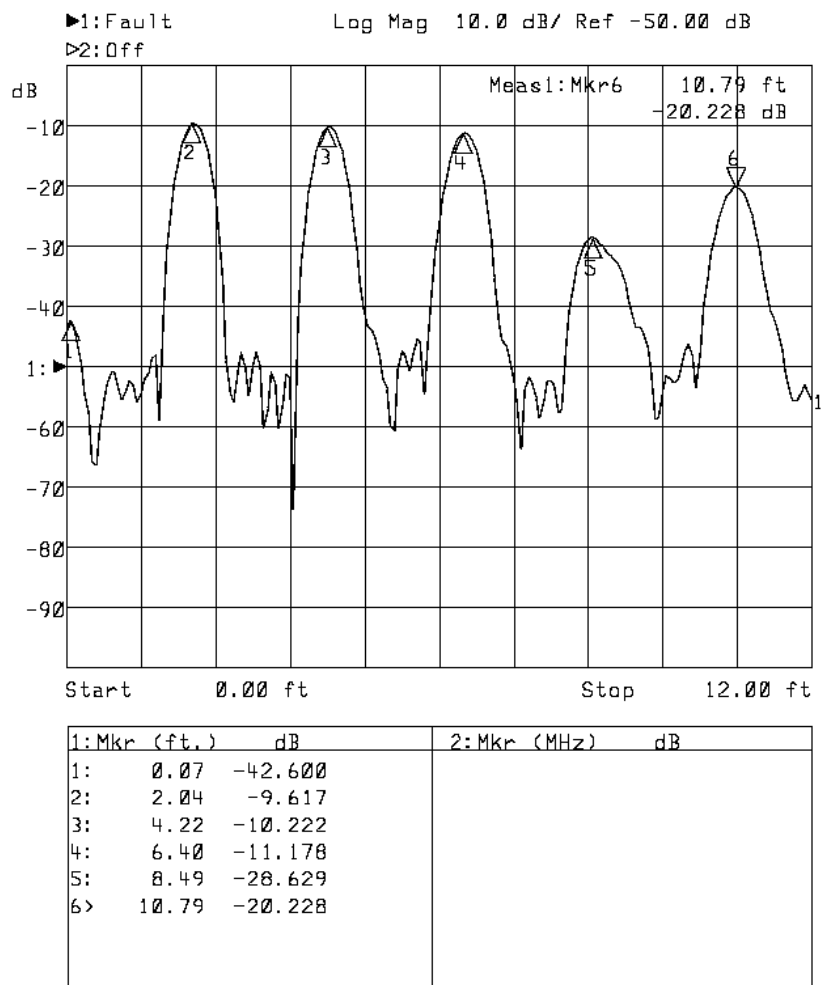
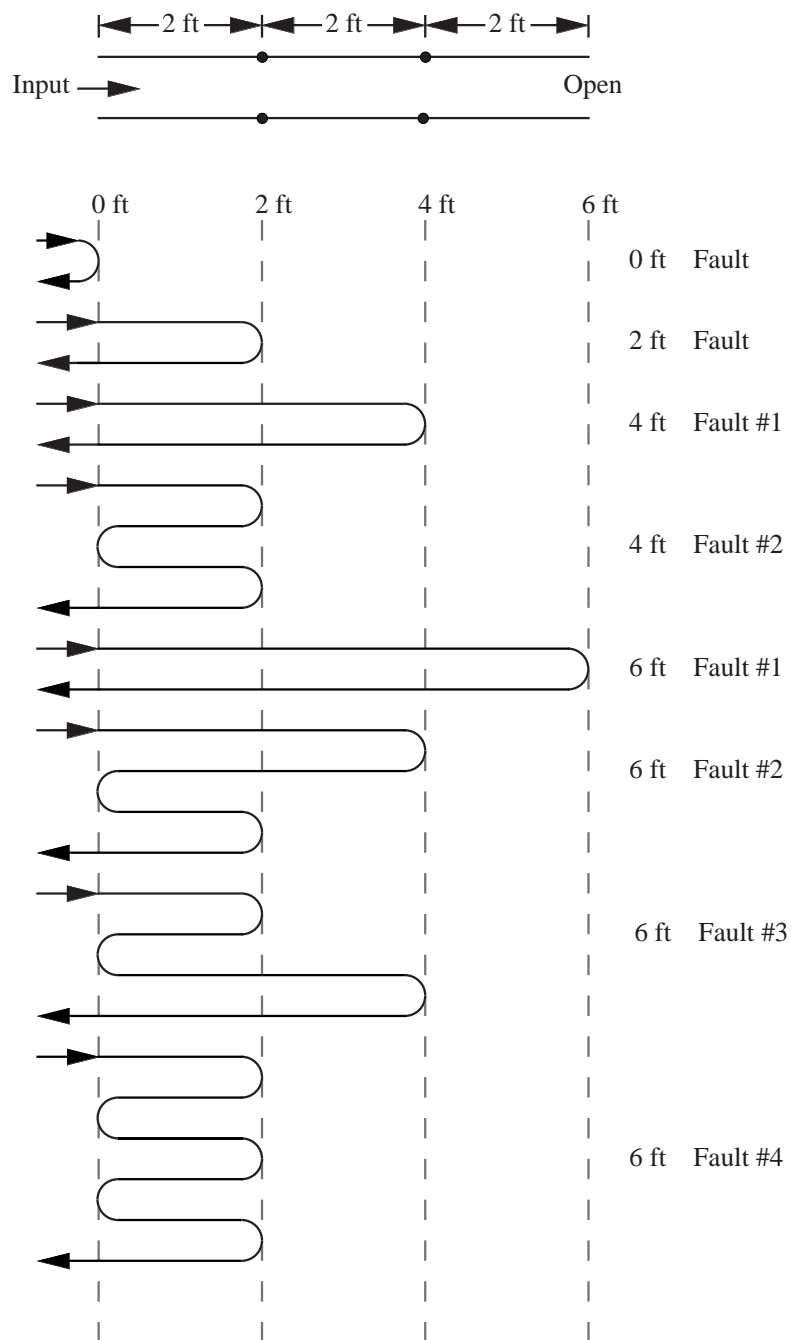

Figure 4-2: Distance domain response of fault location example
Figure 4-3: Signal path diagram for fault location example
An easy way to visualize what is happening to the signal in a transmission-line network is to draw a signal path diagram. For example, the measured response of three 2-foot long co-axial cables connected to each other and terminated in an open is shown in Fig. 4-2. From the response, you can see that there are faults at approximately 0, 2, 4, 6, 8, and 10 feet. What do these faults correspond to? To answer this question, a signal path diagram for the 0, 2, 4, and 6 foot faults is given in Fig. 4-3. Remember, the display from the network analyzer has already corrected for the round trip distance, so the location specified is the physical location and not twice the physical location.
to the network analyzer at the same time. This is demonstrated in Fig. 4-3 by the 4 and 6 foot faults. The 4 foot fault is shown as having two different signal paths. The first path is designated Fault #1 and the signal travels a total distance of 8 feet. The second path is designated Fault #2 and the signal travels a total distance of 8 feet. Since these signals travel the same distance, they arrive at the network analyzer at the same time. What is displayed by the network analyzer is the sum of returned signal from the two paths. The same holds for the 6 foot fault, except that there are now 4 different paths that the signal can travel and still arrive back at the network analyzer at the same time. In general, the further in distance the fault is, more paths the signal can traverse exist.
1. Draw the signal path diagram corresponding to the co-axial cable being terminated in a short. Be sure to locate and identify the fault. (See Fig. 4-3).